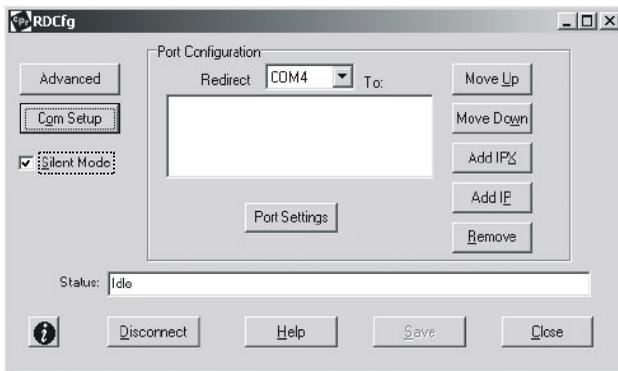

Figure 24: Silent Mode Checked in the RDCfg Window
4. To hide the pop-up window, check **Silent Mode** on the Com Port Redirector Configuration window (Figure 24).